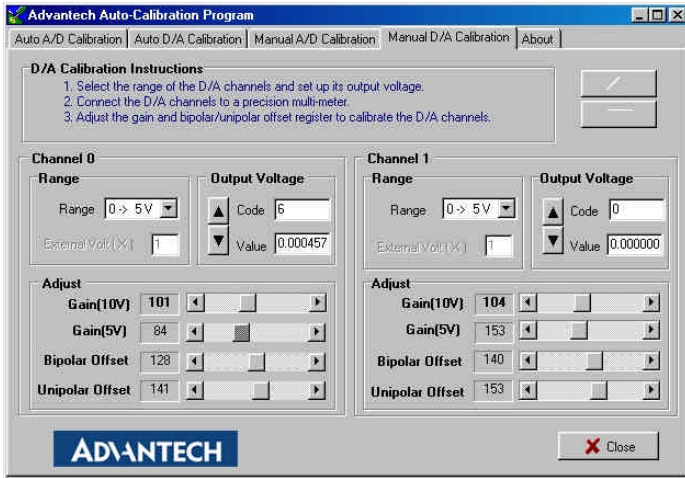

Fig. 5-17: Adjusting registers
Step 3: According to the difference between the output voltage from D/A channel and the value in the multi-meter, adjust the gain, bipolar offset and unipolar offset registers (*Fig. 5-17*)